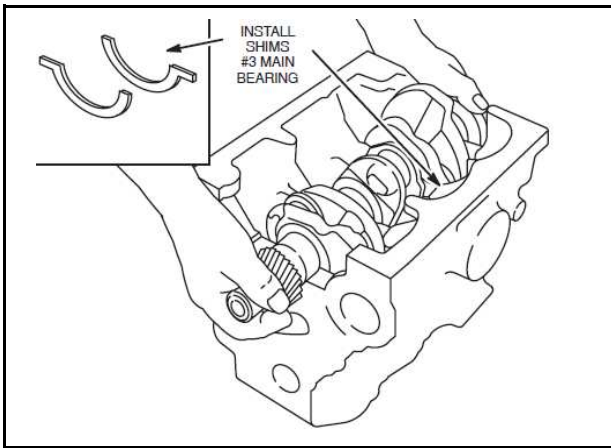

Fig. 3 -Installing Crankshaft
3. Install crankshaft with gear facing front of cylinder block, Fig. 3. Take care not to damage journals or bearings.